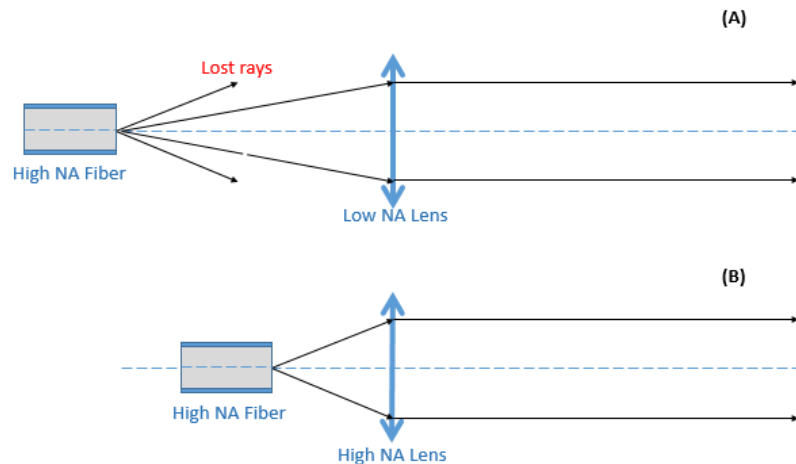

Fig. A3: (A) High NA fiber connected to low NA Collimator Lens,
Standard collimators are designed for low NA fibers (like NA 0.22) therefore when high NA fiber is connected to such collimator the highly divergent rays will be lost (Fig. A3 (A)) resulting in significant power losses. Alternatively if high NA fiber will be connected to high NA collimator the collimator lens NA is matched to the NA of the fiber resulting in good power throughput (Fig.A3 (B)).